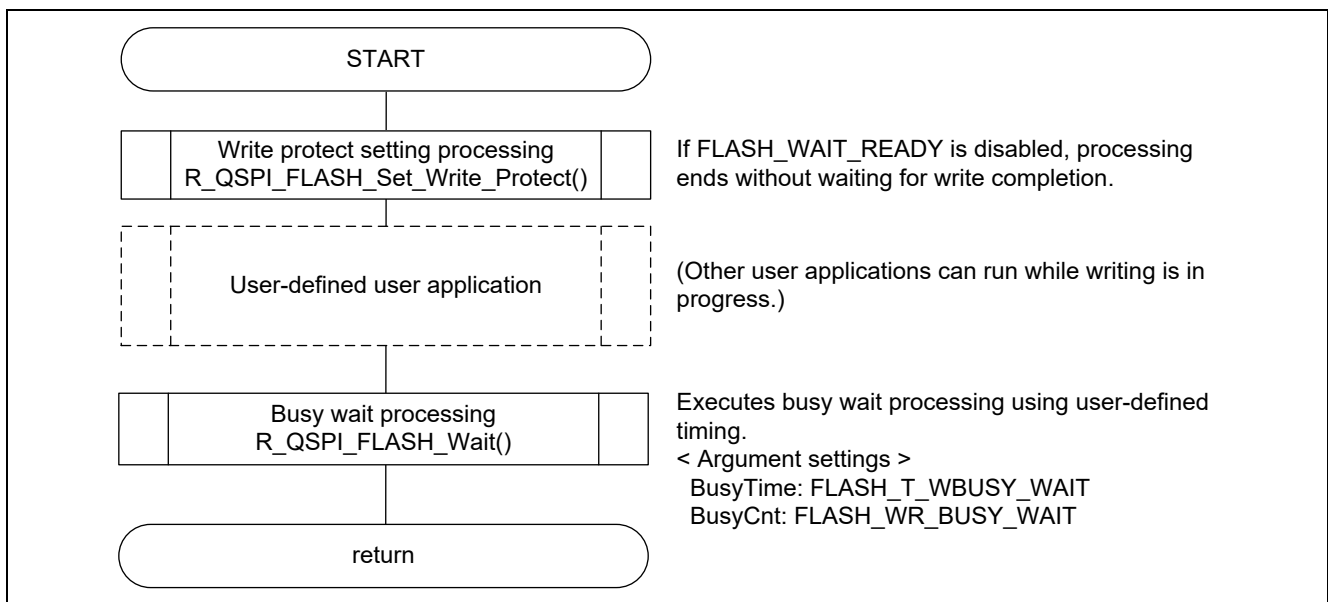

Figure 5.15 Using R\_QSPI\_FLASH\_Wait() to Wait for Write Protect Setting Completion
- Disable FLASH\_WAIT\_READY in r\_qspi\_flash\_mx25l.h, and call R\_QSPI\_FLASH\_Wait() after processing by this user API has finished. This processing method allows you to perform write-end wait confirmation at any time you wish. Refer to figure 5.15 for instructions.